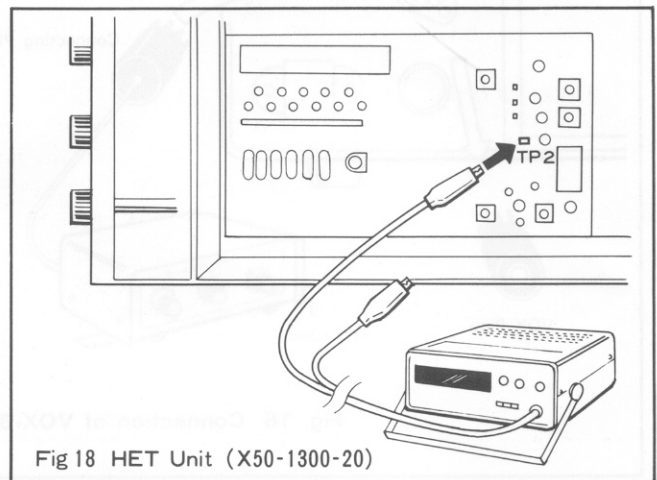

Fig 18 HET Unit (X50-1300-20)
2. Connect a frequency counter to the point TP2 (Fig. 18) in HET unit (X50-1300-20). The frequency counter should be capable of reading up to 10 MHz.